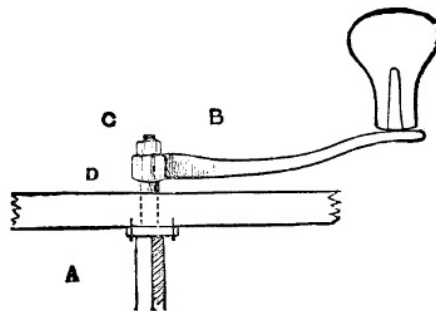

Fig. 3.
The spindle of the large iron wheel is made *round* at d, Fig. 3, where it works in the floor of the bench. That hole should be lined with soft leather, fitting the spindle like a glove, and kept well oiled. An iron plate (A) keeps the spindle in position. The spindle is, of course, *square* where the crank grips it at b, and a nut (c) screwed tight keeps the crank in position.